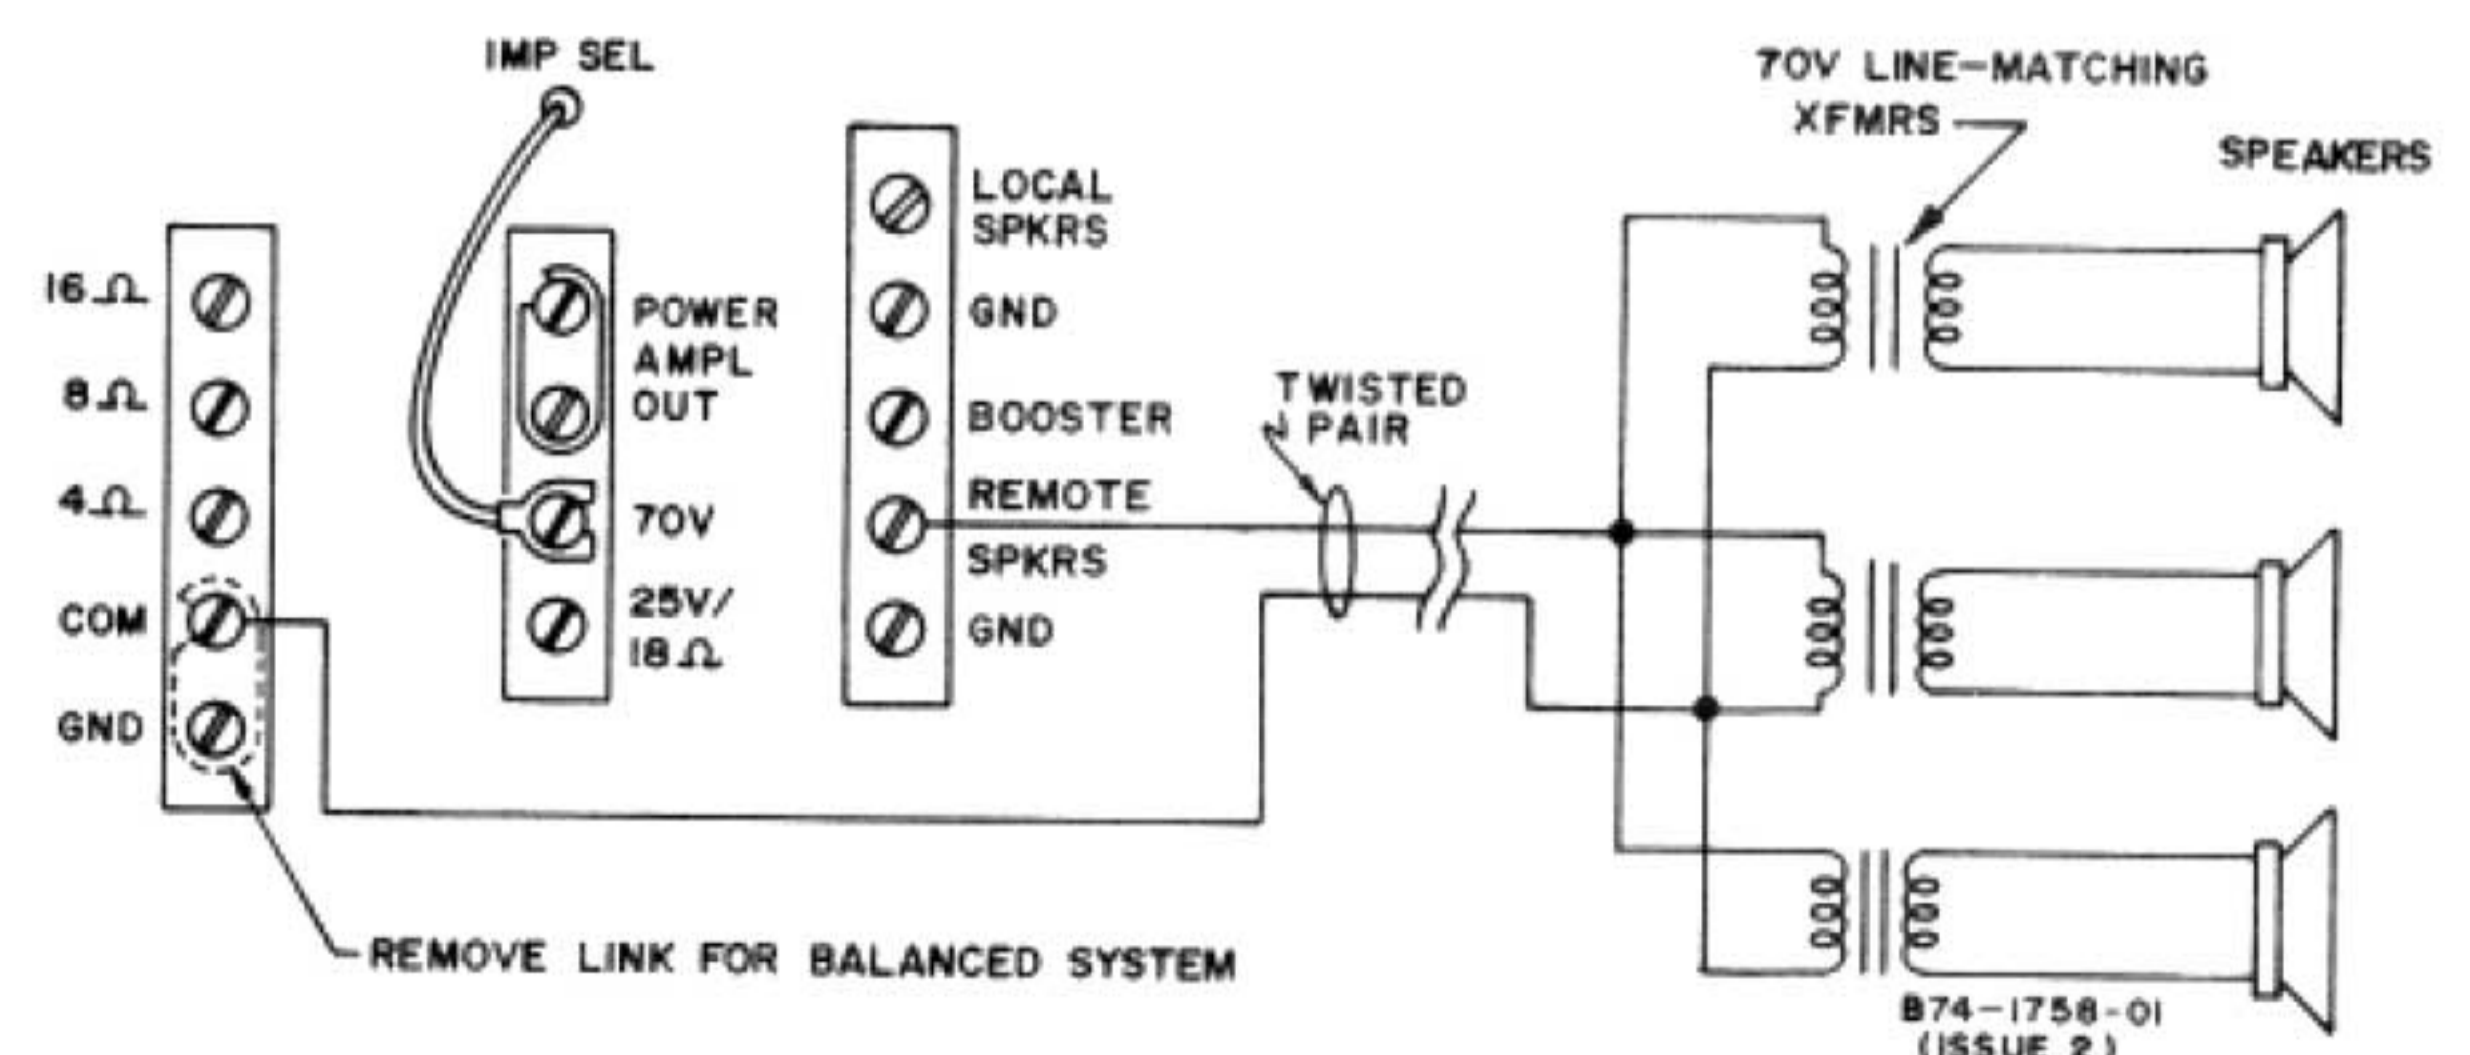

Figure 12 — Matching 70V Constant-Voltage System
2) Figure 12 shows how to connect to a 70 V constant-voltage system. The speaker lead may be connected to REM or LOC, as required.